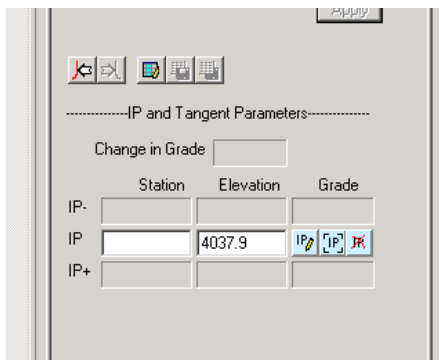

Figure 2.10: IP and Tangent Parameters Area Vertical Curves
3. Maximize the Profile Window (this can be done by double clicking on its title bar). The *IP and Tangent Parameters* area of the *Vertical Curves* Panel should appear as shown in the Figure 2.10. If it doesn't then press the  until the IP field is enabled.